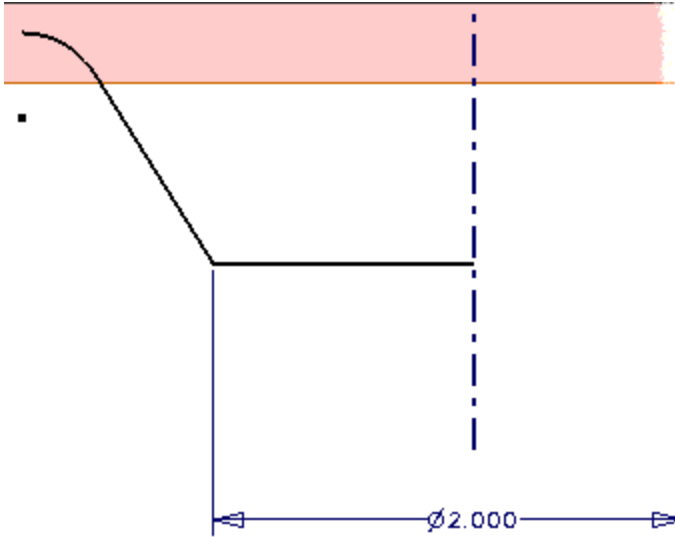

Figure 10: Bottom diameter dimension.
8. From the Sketch panel bar, click the Dimension tool. Click the endpoint of the horizontal line and then click the centerline. Place the dimension as shown in Figure 10.